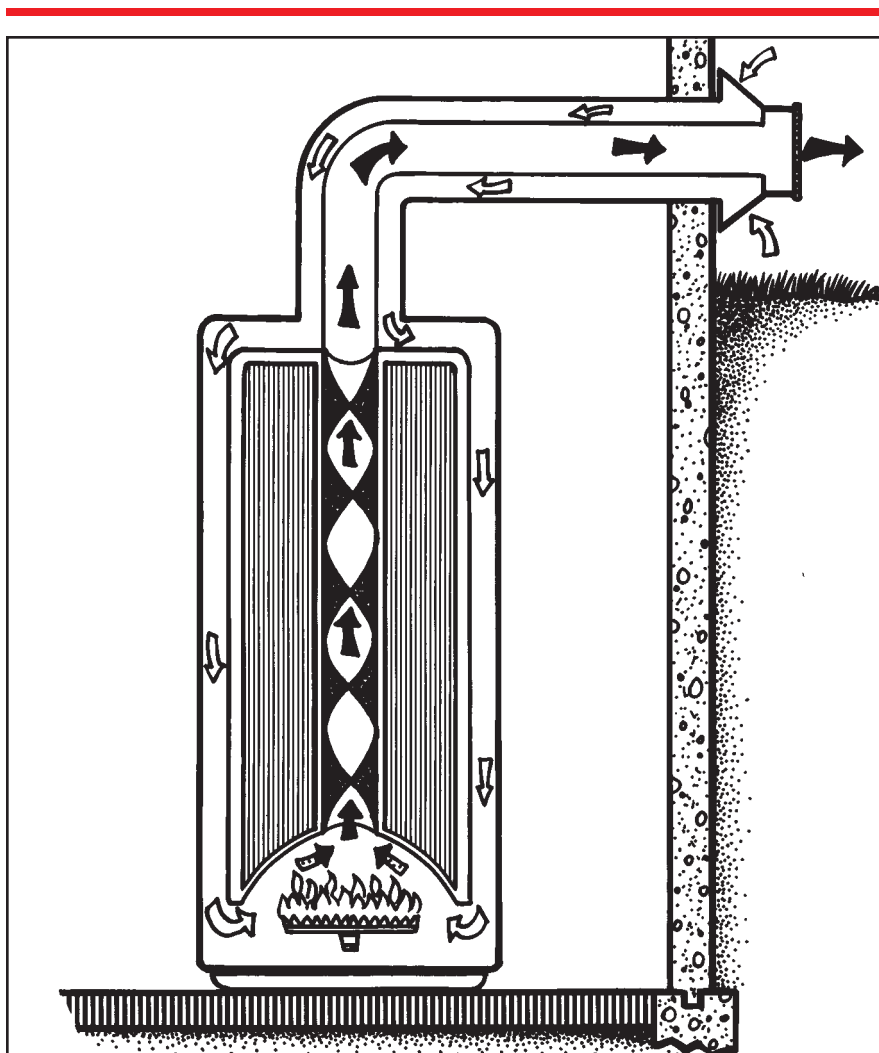

Figure 4
**Sealed combustion.** This type of water heater brings air directly into a combustion chamber without mixing with house air. A sealed combustion heater does not need a chimney, since its exhaust gases are blown from the side of the house with a fan (Figure 4). This eliminates the potential danger of the hot-water heater back-drafting into the house.